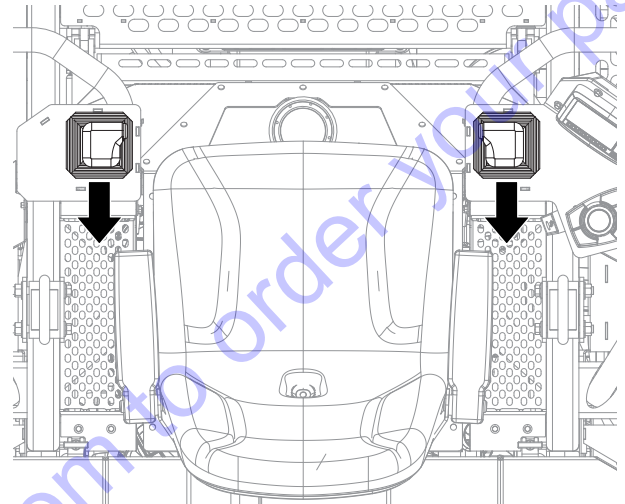

Figure 44. Joysticks (Reverse)
5. Pull both the left and right joysticks backward (Figure 44) and repeat step #2 while substituting the word *reverse* for *forward*.